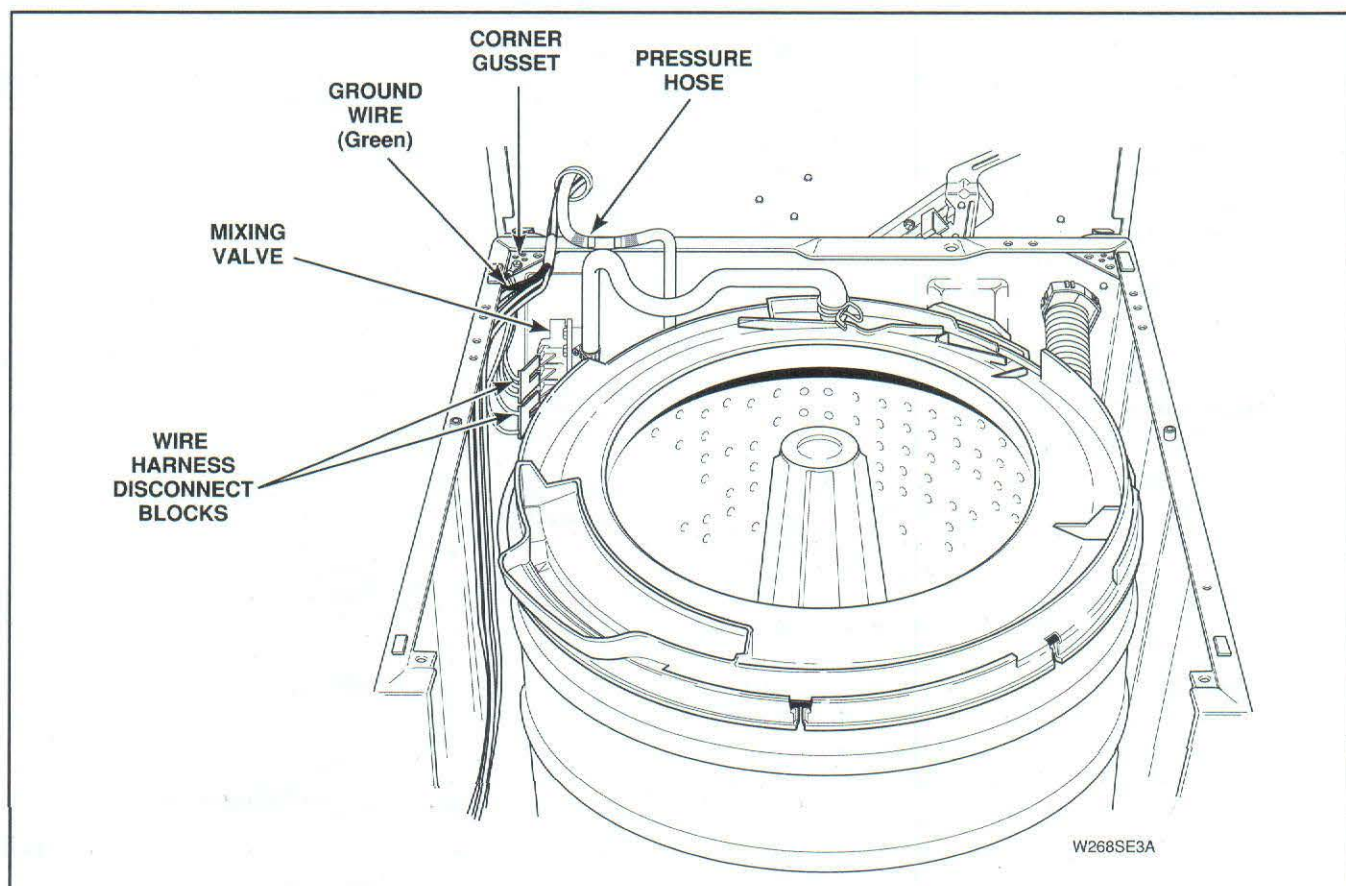

Figure 29
- Pull top forward far enough to permit disconnecting green ground wires from top left rear corner of washer cabinet, *Figure 29*.
- Disconnect wires from mixing valve solenoids at quick disconnect blocks, *Figure 29*.